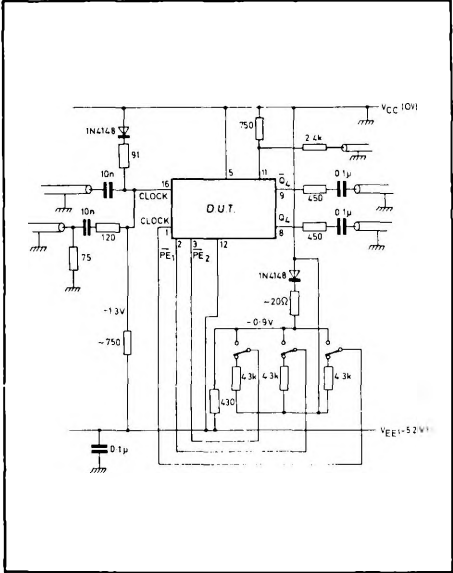

Fig. 5 Test circuit for dynamic measurements
- 4 The devices are dynamically tested using the circuit shown in Fig. 5. The bias chain has the same temperature coefficient as ECL III and ECL 10K, and therefore tracks the input reference throughout the temperature range. The devices are tested with input amplitudes of 400 and 800 mV p-p about that reference, over the full temperature range.